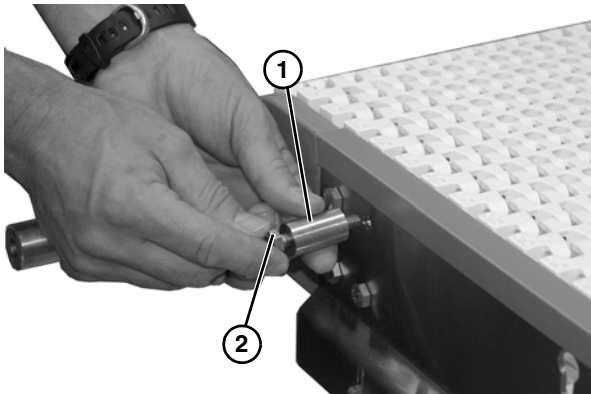

Figure 13
2. Install support arm (**Figure 13, item 1**) with longer screw (**Figure 13, item 2**)